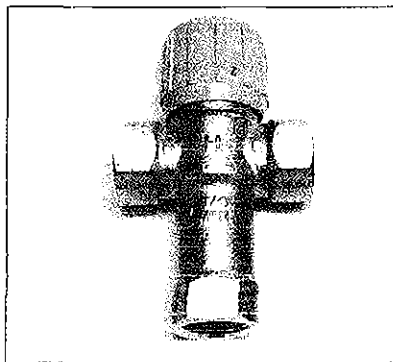

Figure 7 - Thermostatic Mixing Valves installed at each point-of-use can help prevent scalding.
- Point-of-use Thermostatic Mixing Valves (see page 8, figure 7) ■
Install Thermostatic Mixing Valves (figure 7) to regulate the temperature of the water supplied to each point-of-use (for example, kitchen sink, bathroom sink, bath, shower). Consult the valve manufacturer's instructions or a qualified person.